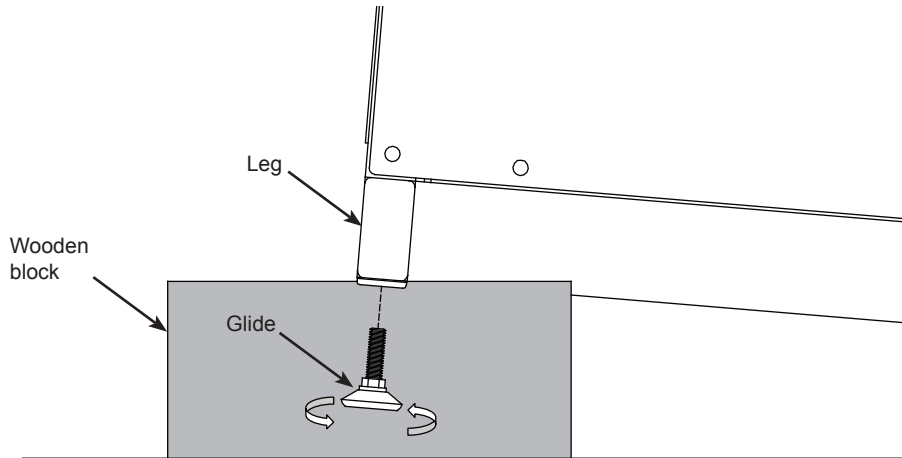

Figure 2
1. Carefully lift one side of the desk and place a short wooden 4x4 or 2x4 block (or equivalent support) under the leg. This may require two people. **Figure 2.**